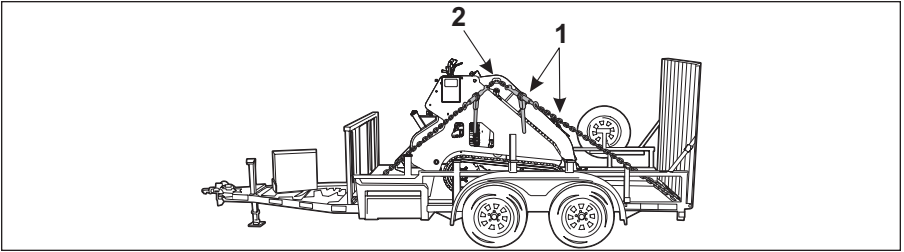

Figure 3-14 Travel Chains and Binders
When transporting the machine, make sure to use DOT approved chains and binders (Item 1, Figure 3-14) to secure the machine to the “D” rings on the trailer.
**NOTE:** It is recommended to secure the machine through the lifting holes located at the lift cylinder end of the boom assembly (Item 2, Figure 3-14)